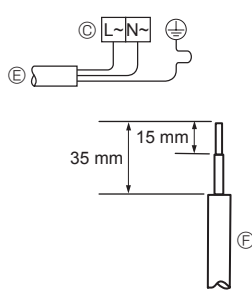
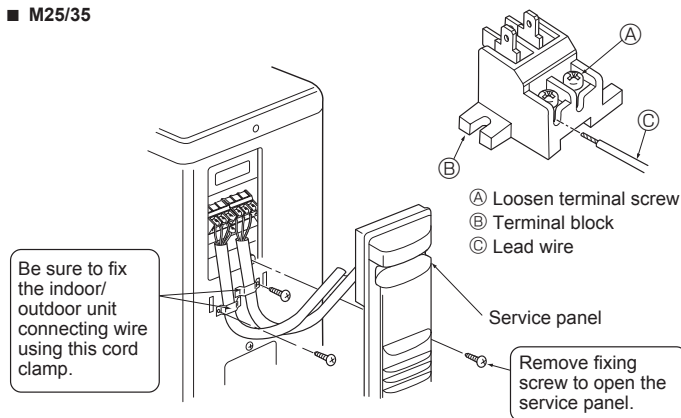
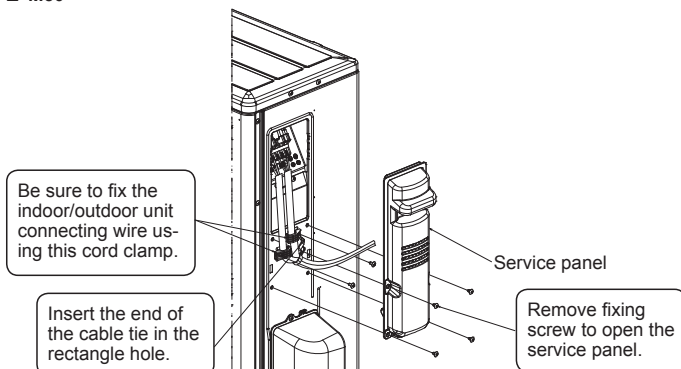

Fig. 6-2
Fig. 6-3
Fig. 6-4
### 6.1. Outdoor unit (Fig. 6-1, Fig. 6-2, Fig. 6-3, Fig. 6-4)
- ① Remove the service panel.
- ② Wire the cables referring to the Fig. 6-1, Fig. 6-2, Fig. 6-3 and the Fig. 6-4.
- Perform wiring as shown in the diagram to the lower left. (Procure the cable locally) (Fig. 6-2)